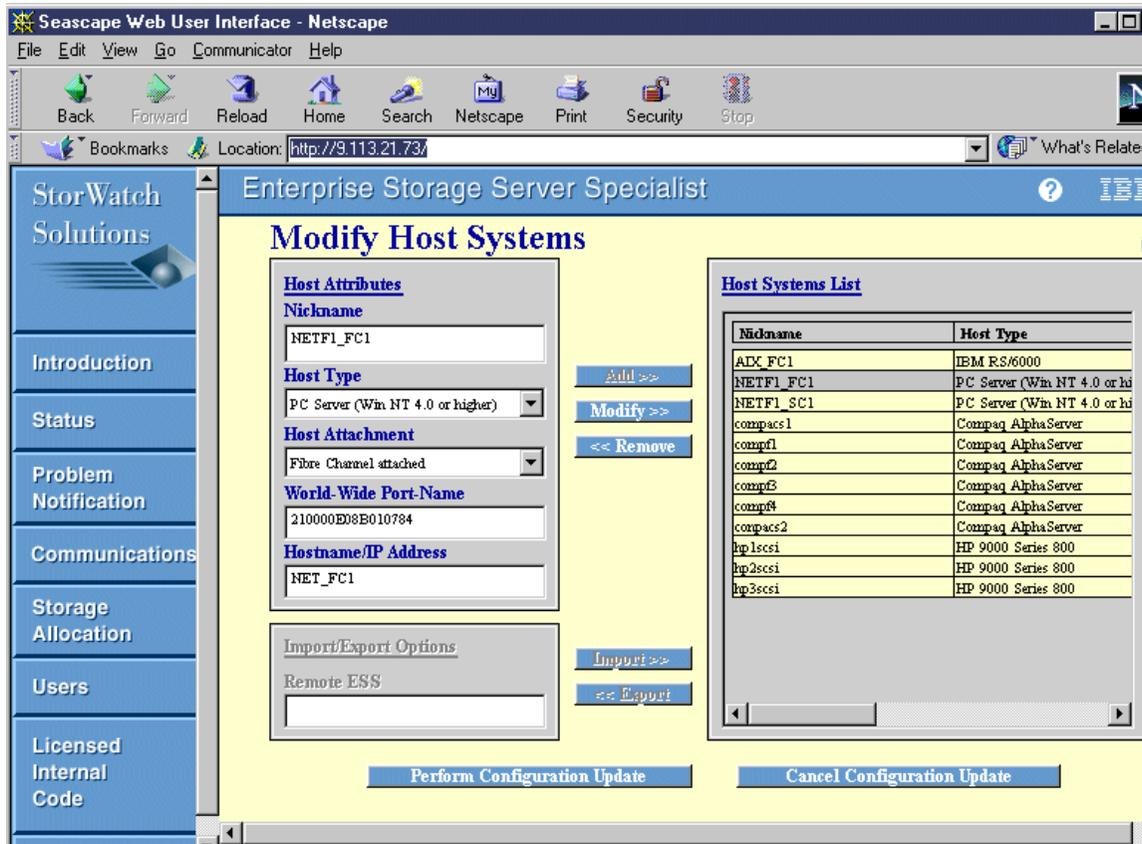

Figure 65. Defining a new host on ESS Specialist
- Click **Add>>**. The host should now show on the Host Systems List. An example is shown in Figure 65.